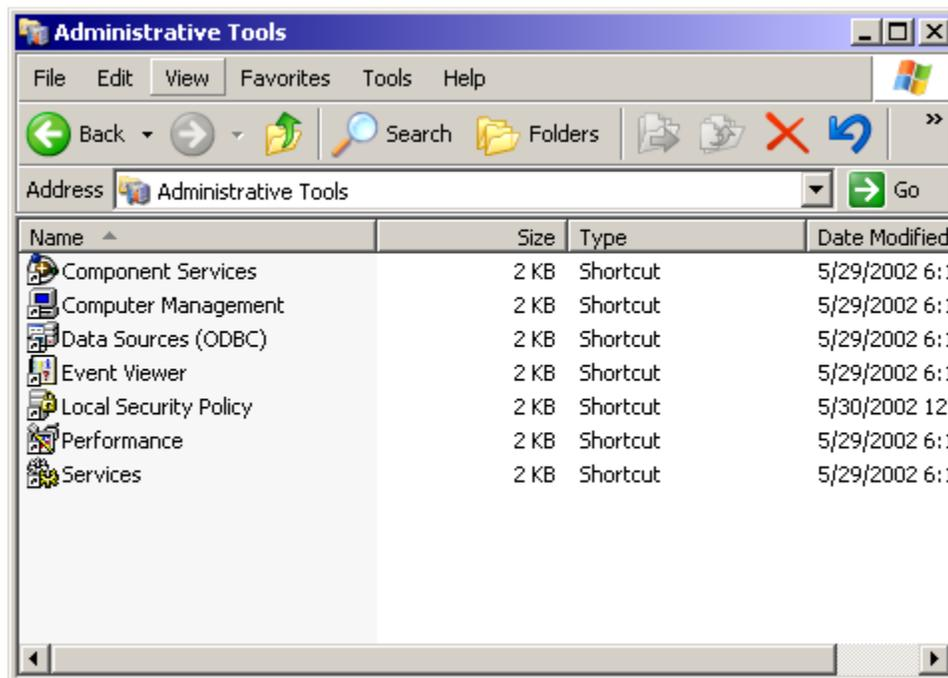

FIGURE 127. Administrative Tools window
4. Click on the Administrative Tools to bring up the window as in Figure 127.